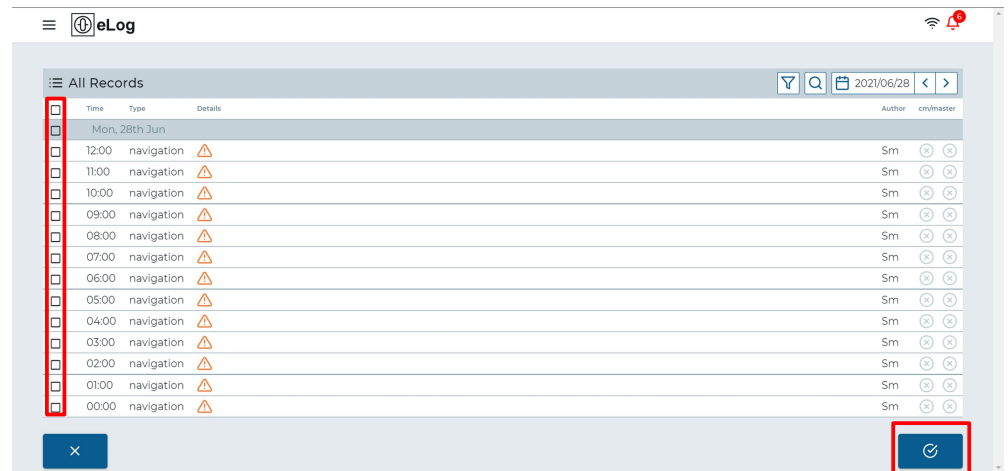

Fig. 11: List of Records, Approve Records
4. Select the softkey **Approve**, see Fig. 11.